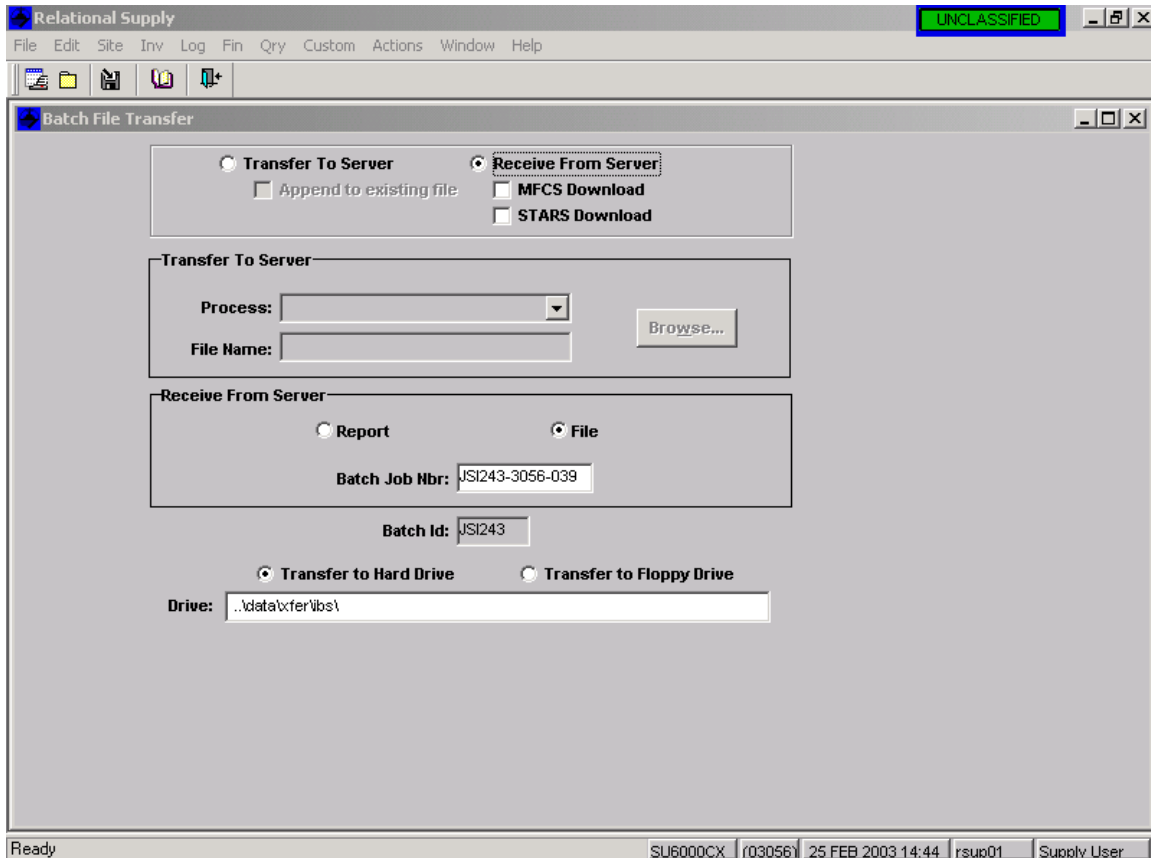

Figure C1
- c. Select RECEIVE FROM SERVER and File. (FIGURE C1)